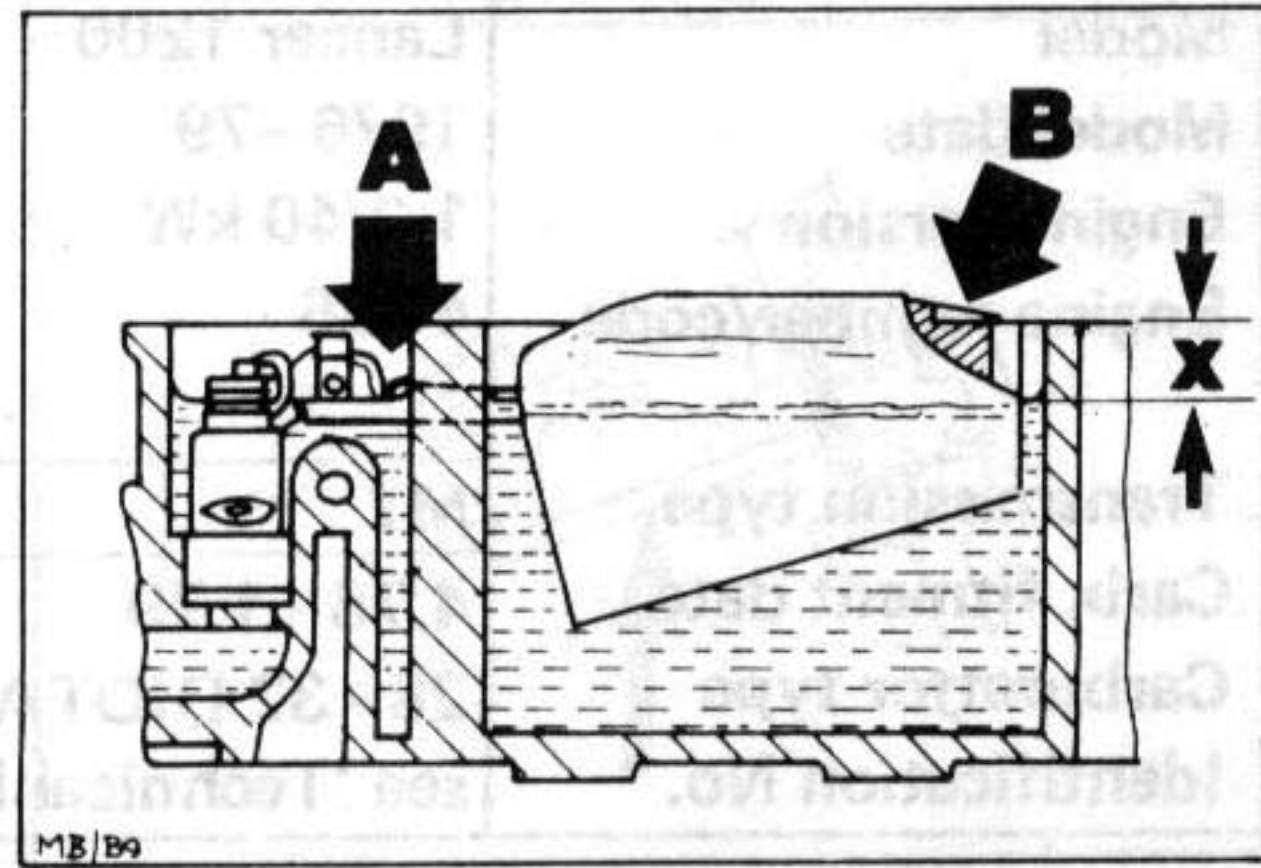
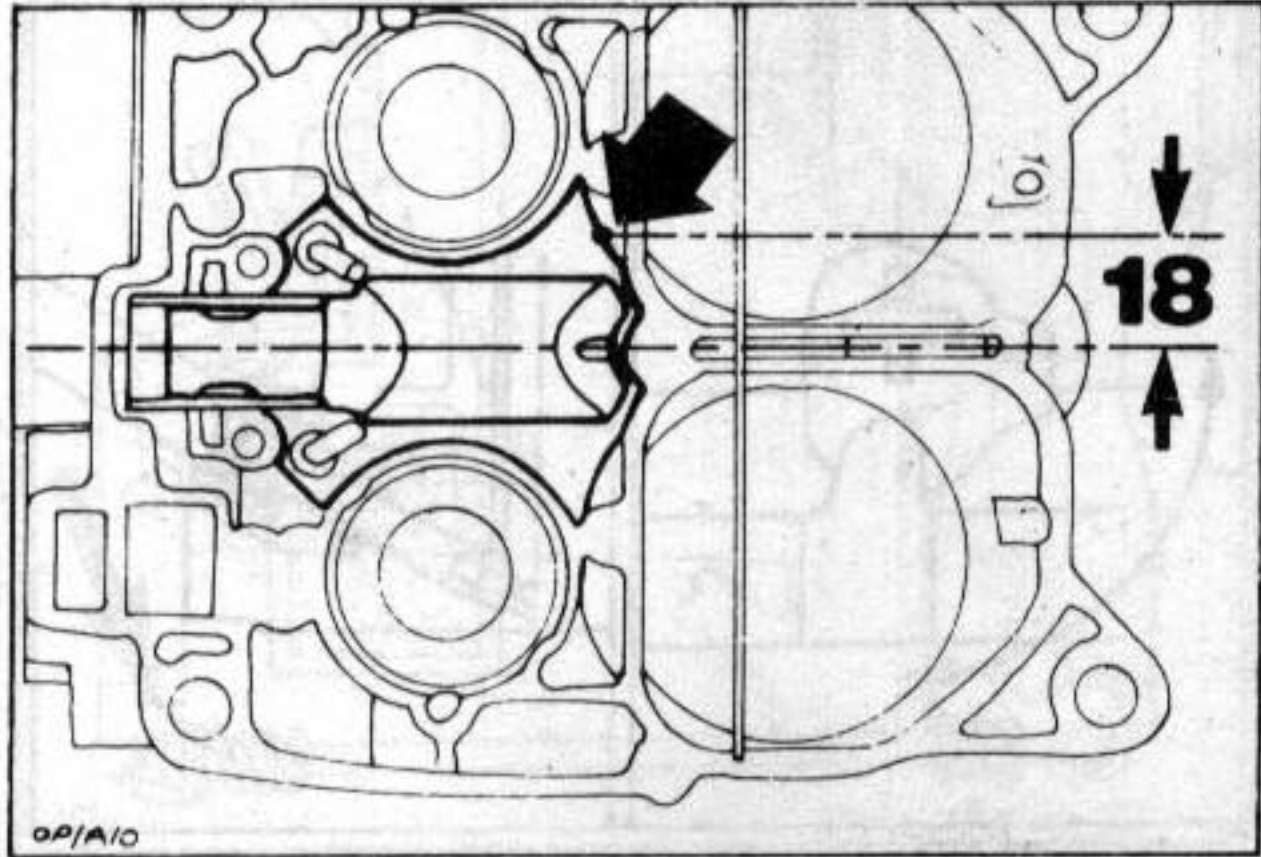

Fig. 8 Checking float level setting
Fig. 9 Fuel level checking point
- Using a depth measuring gauge, measure distance (x) (Fig. 8) from face of carburettor housing without gasket to surface of fuel at edge of float chamber at a point 18 mm from float centre-line (Fig. 9).
- If dimension is outside specified limits, remove float and bend arm in appropriate direction at point (A) immediately in front of pivot pin hole to achieve correct setting.